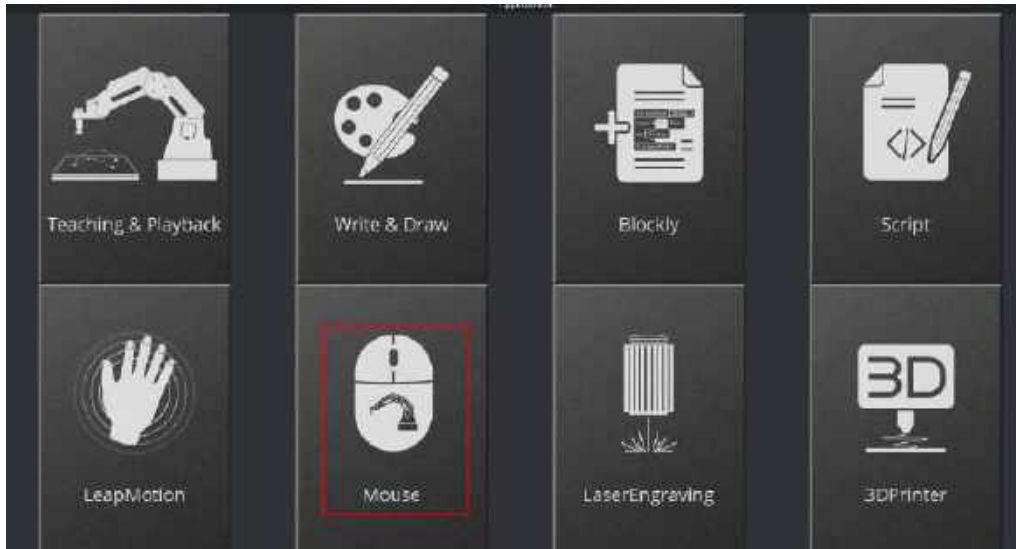

Figure 5.99 Click Mouse
Step 1 Click **Mouse**, as shown in Figure 5.99.